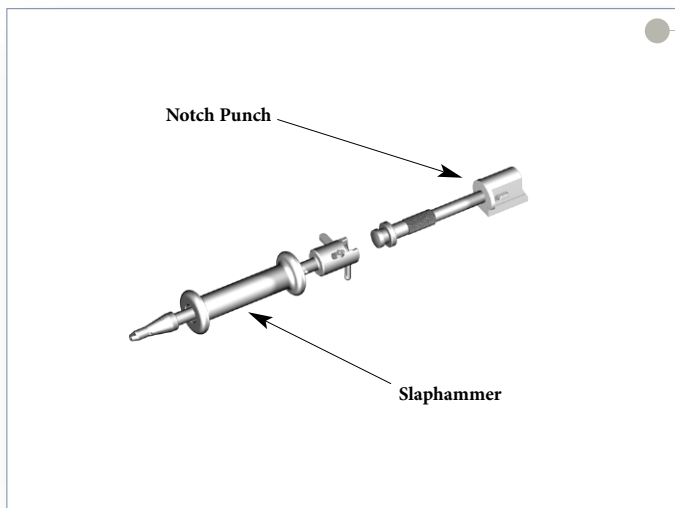

Figure 42
- ▶ Remove the Compactor from the tracks with a Slaphammer if necessary (**Figure 42**).